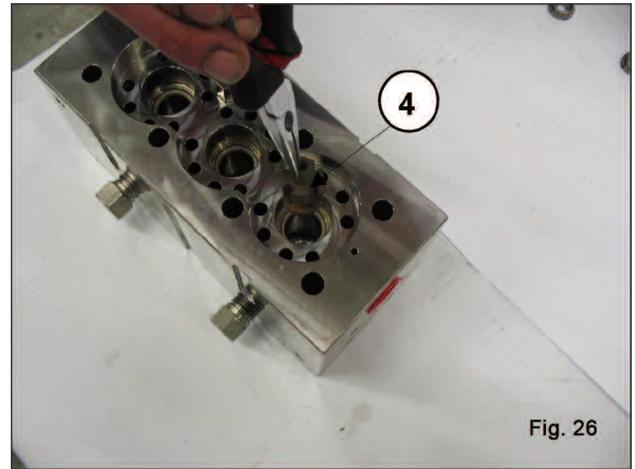
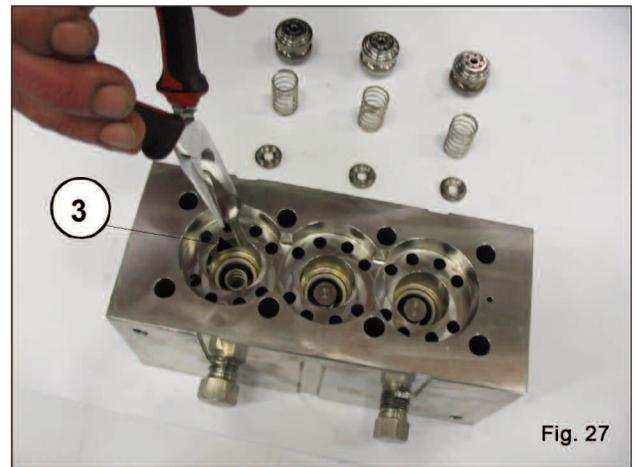

Fig. 26
Fig. 27
- Extract the outlet plates, 3, and their guides, 4, with the springs, as shown in fig 26 and fig. 27, check for wear and replace if necessary, and in any case within the times indicated in the "Preventive Maintenance" table of Chapter 11 in the Owner's Manual.